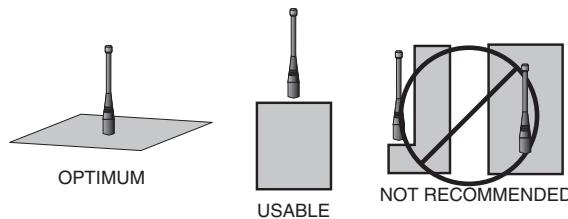

Figure 58: Ground Plane Orientation
2. Optimum performance is obtained from a  $\frac{1}{4}$ - or  $\frac{1}{2}$ -wave straight whip mounted at a right angle to the ground plane (Figure 58). In many cases, this isn't desirable for practical or ergonomic reasons, thus, an alternative antenna style such as a helical, loop or patch may be utilized and the corresponding sacrifice in performance accepted.